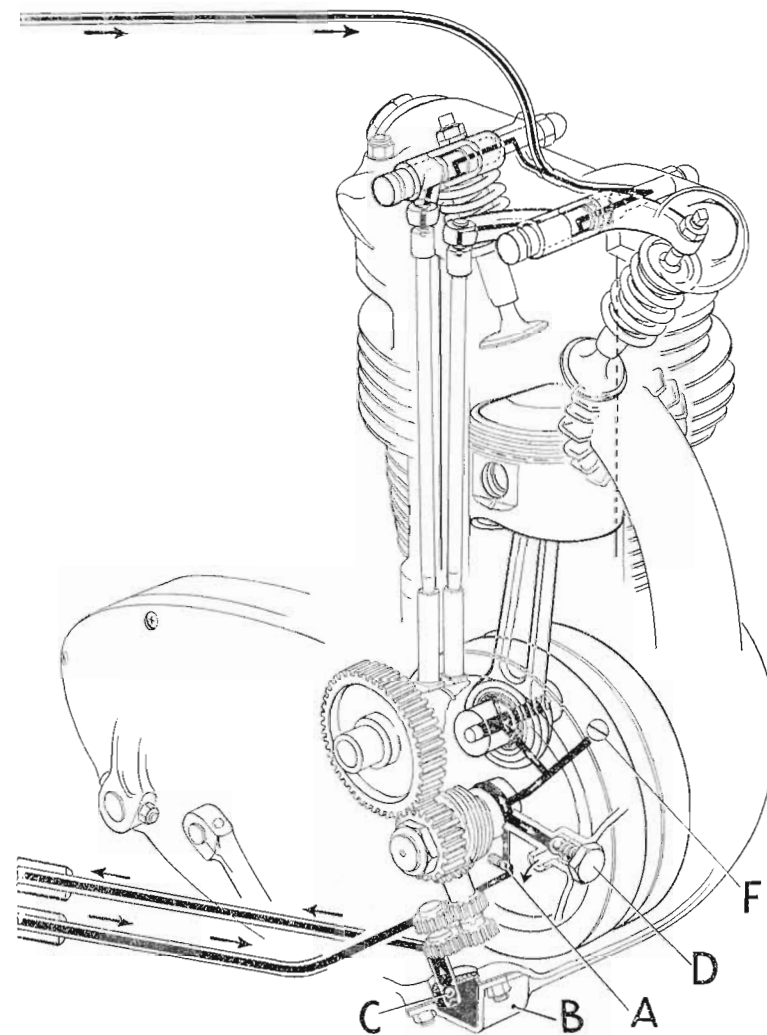

Fig. 3. Lubrication system.
The lubrication system is of the dry sump type and is operated by a double gear pump situated in the bottom of the crankcase on the right-hand side (see Fig. 3). The oil tank capacity is four pints (five pints on Trials and Scrambles machines) and oil is drawn from the oil tank to the supply pumpet (tops of gears). It is then pumped
The pump filter can be withdrawn after removing the crankcase cover plate (B), see Fig. 3, and should be thoroughly washed with petrol, dried and replaced. The oil pump is extremely reliable and it is most unlikely that it will give trouble and therefore it should not be disturbed unnecessarily. The pump is held in position by three bolts. The two other bolts hold the sections of the pump together.